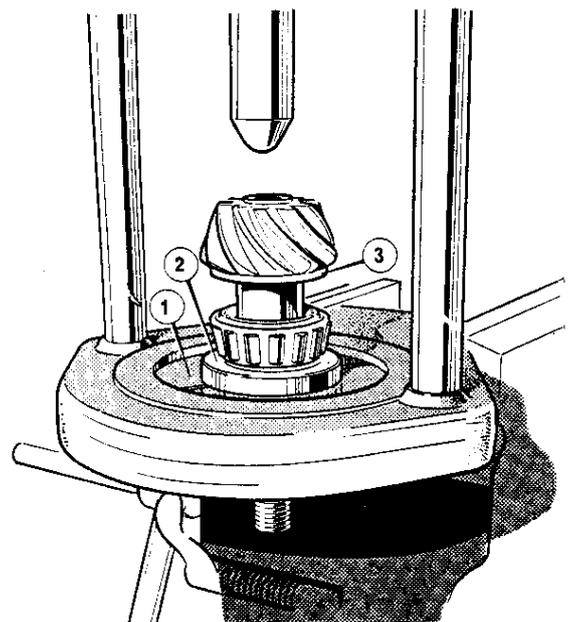

Figure 12 Replacing pinion bearing cone using hand press and collars
5. Remove the dummy pinion assembly, place the selected spacer on the pinion and assemble the bearing cone, using the hand press tool No. 47, adapter RT 8765/2 and bearing replacer collars RT 8765/1 (**Figure 12**)